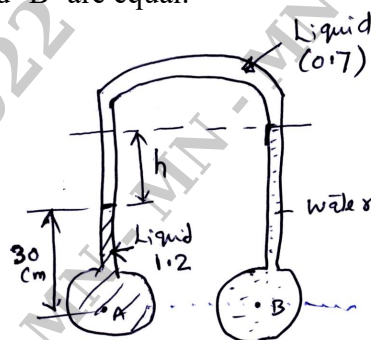

Fig.Q2(c)
c. Find out the differential reading 'h' of an inverted U-tube manometer containing oil of specific gravity 0.7. The manometric liquid when connected across pipes 'A' and 'B' is shown in Fig.Q2(c). Convey liquids of specific gravity 1.2 and 1.0 (water) which are immiscible with manometric liquid. Pipes 'A' and 'B' are located at the same level and assume the pressures at 'A' and 'B' are equal.